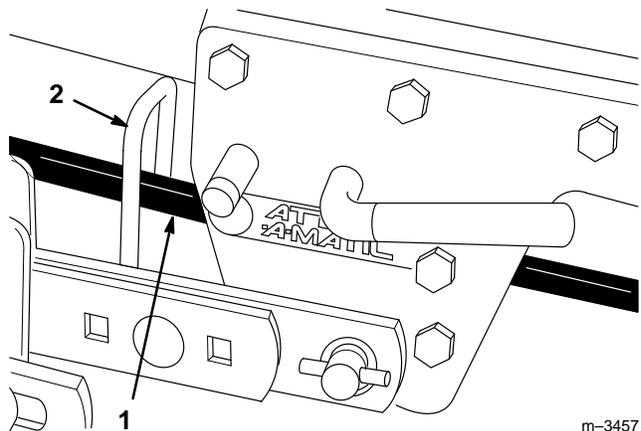

Figure 9
- Hang the belt over the mower, then thread it forward through the belt guide (Fig. 9) on the mower.